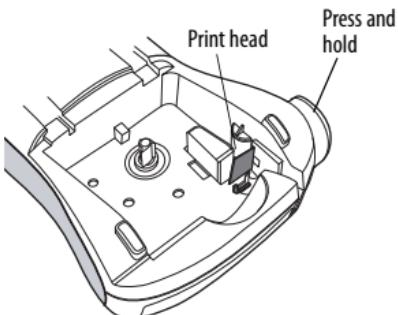

Figure 6
2. Press and hold the cutter button to expose the cutter blade. See Figure 6.
See Figure 6.